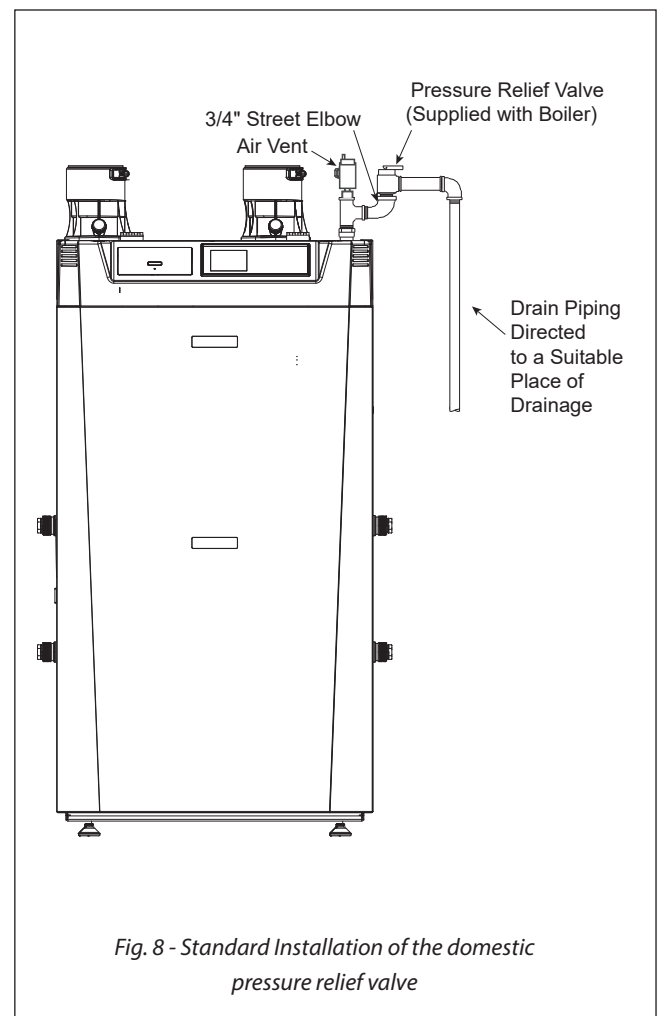

Fig. 8 - Standard Installation of the domestic pressure relief valve
1. The EXALT is supplied with a 30 psi pressure relief valve and must be piped using the PRV connection as shown in *Fig. 8 below*.